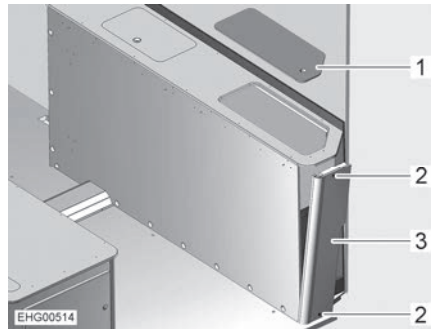

Fig. 123 Bedding box on the right
- Remove the service cover (Fig. 123,1).
- Unscrew 2 screws (Fig. 123,2).
- Reach into the bedding box from above and press the side wall (Fig. 123,3) slightly outwards.